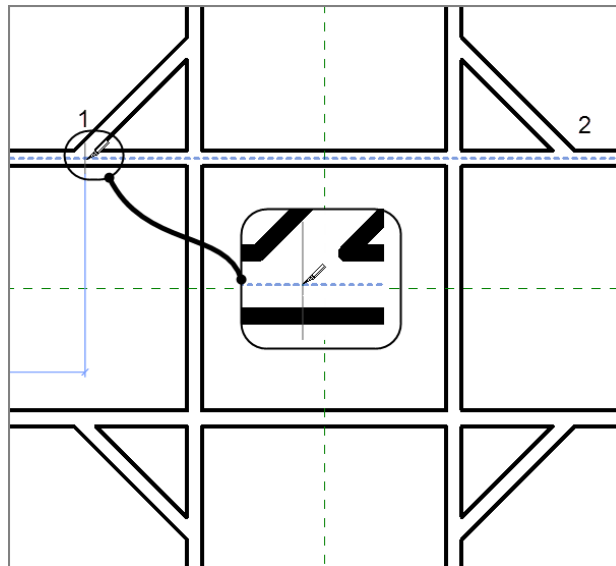

FIGURE 2.46: Split the wall at two points. If you've selected Delete Inner Segment, the result is to eliminate the wall between the two points.
4. Pick the second point along the same wall, only on the opposite side (see Figure 2.46).